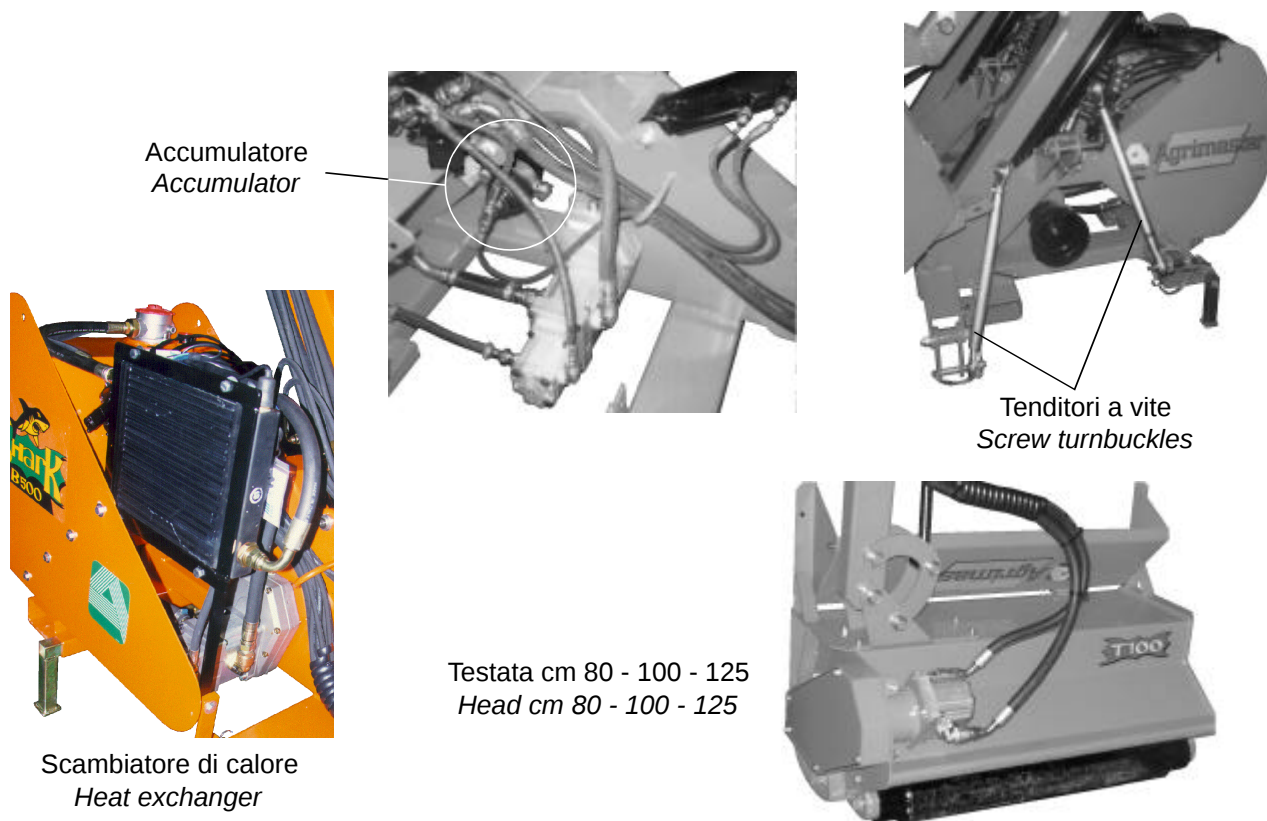

Fig. 2-2 Accessori a richiesta - Accessories on request
2.1.2 Accessori a richiesta (Fig. 2-2)
2.1.2 Accessories on request (Fig. 2-2)